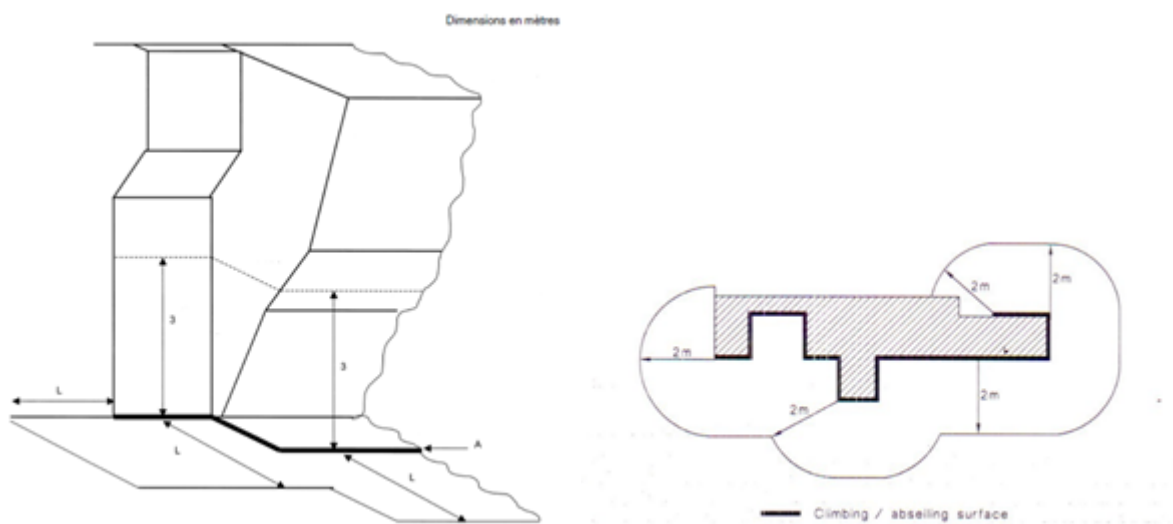

Fig. 4 Example of the impact areas at the base of the rope climbing wall, a) NF P90-312 [4], and b) AS2319.1-2009 [5].
**1. Impact area.** Since the mat in the related standards is only designed to limit the injuries in the event of a fall from a height, corresponding to the first anchor point [4]. An example of the French and Australian standard impact safety zones is shown below in Fig. 4.